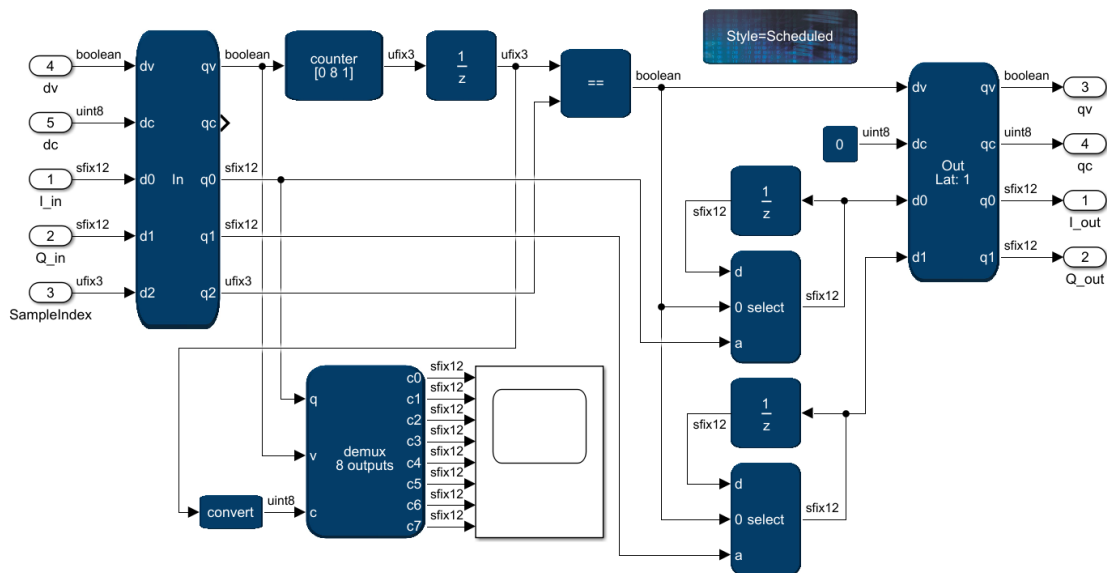

Figure 6: *Design of the Decimation subsystem.*
- Add a *Demux* block and set the number of **Output Channels** to `[0:sampleRate/dataRate - 1]` and the **Number of Input Channels** to `sampleRate/dataRate`. Connect the `q` input of the *Demux* to the wire connected to the output of the *ChannelIn* corresponding to the `I_in` port, and `v` to the `qv` output of the *ChannelIn*. The channel select signal (`c`) can be taken from the *SampleDelay* succeeding the counter. You must however convert it to an `uint(8)` using a *Convert* block from the **Primitive Basic Blocks** library. Finally, set up a *Scope* to handle eight channels and connect it to the outputs of the *Demux*. The final design should look similar to Fig. 6